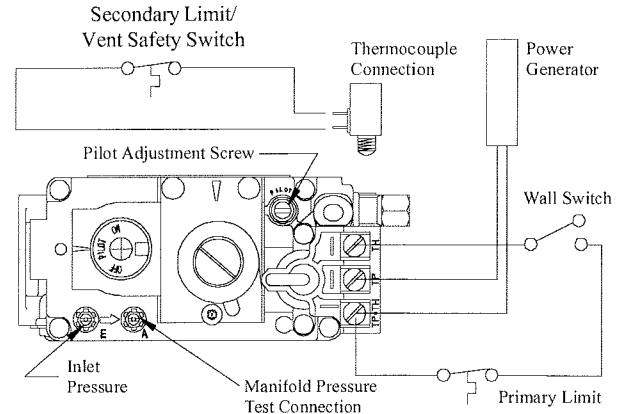

Figure 10. Sit Nova 820 gas valve.
- Locate Pilot Adjustment Screw. (See figure 10.)
Pilot won't ignite	Disconnect remote wires and try to light pilot. If pilot now works, remote connections are faulty. Check wiring diagram figure 10 .
Main burner will not light	<ol style="list-style-type: none"> 1. Check wiring (see figure 10) 2. Check wall switch for proper connection. 3. Check pilot burner. If extinguished: <ol style="list-style-type: none"> a. Allow fireplace to cool, then try to relight. b. If condition persists, call a qualified service person.